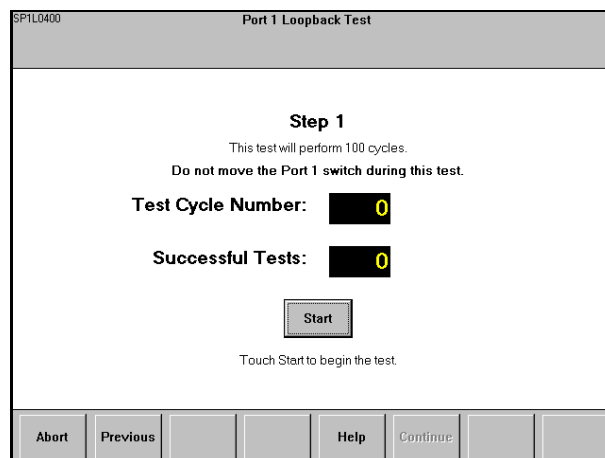

Figure 10
2. The following screen, Figure 10, will appear once the operator has pressed the "**Continue**" option.